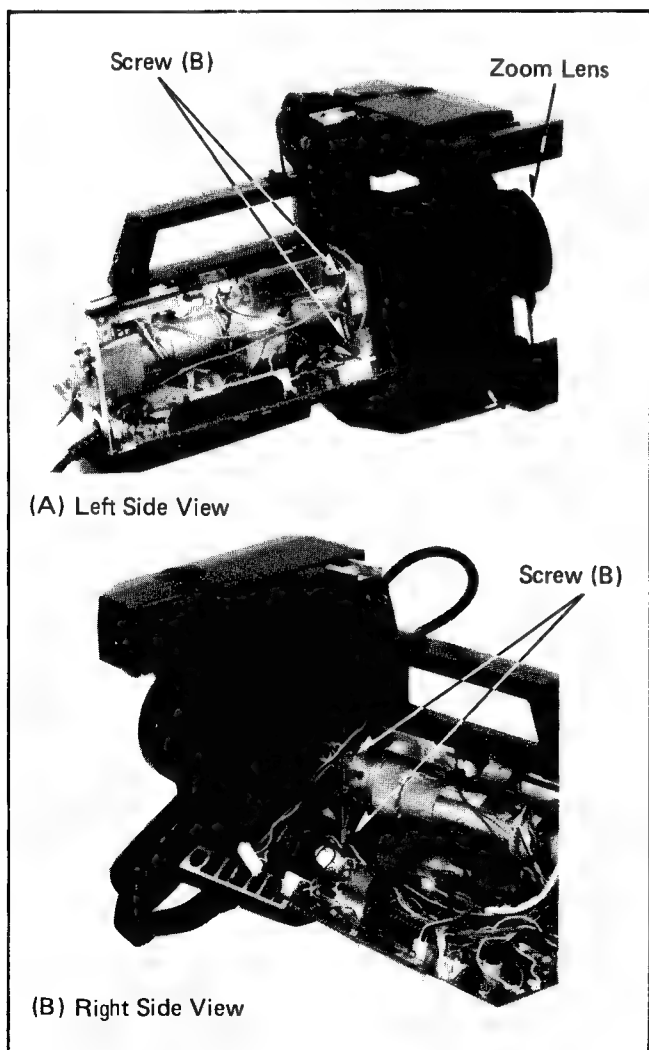

Fig. 14.
- 4-4. Unscrew 4 screws (B) and remove the zoom lens (see Fig. 14-A/B).